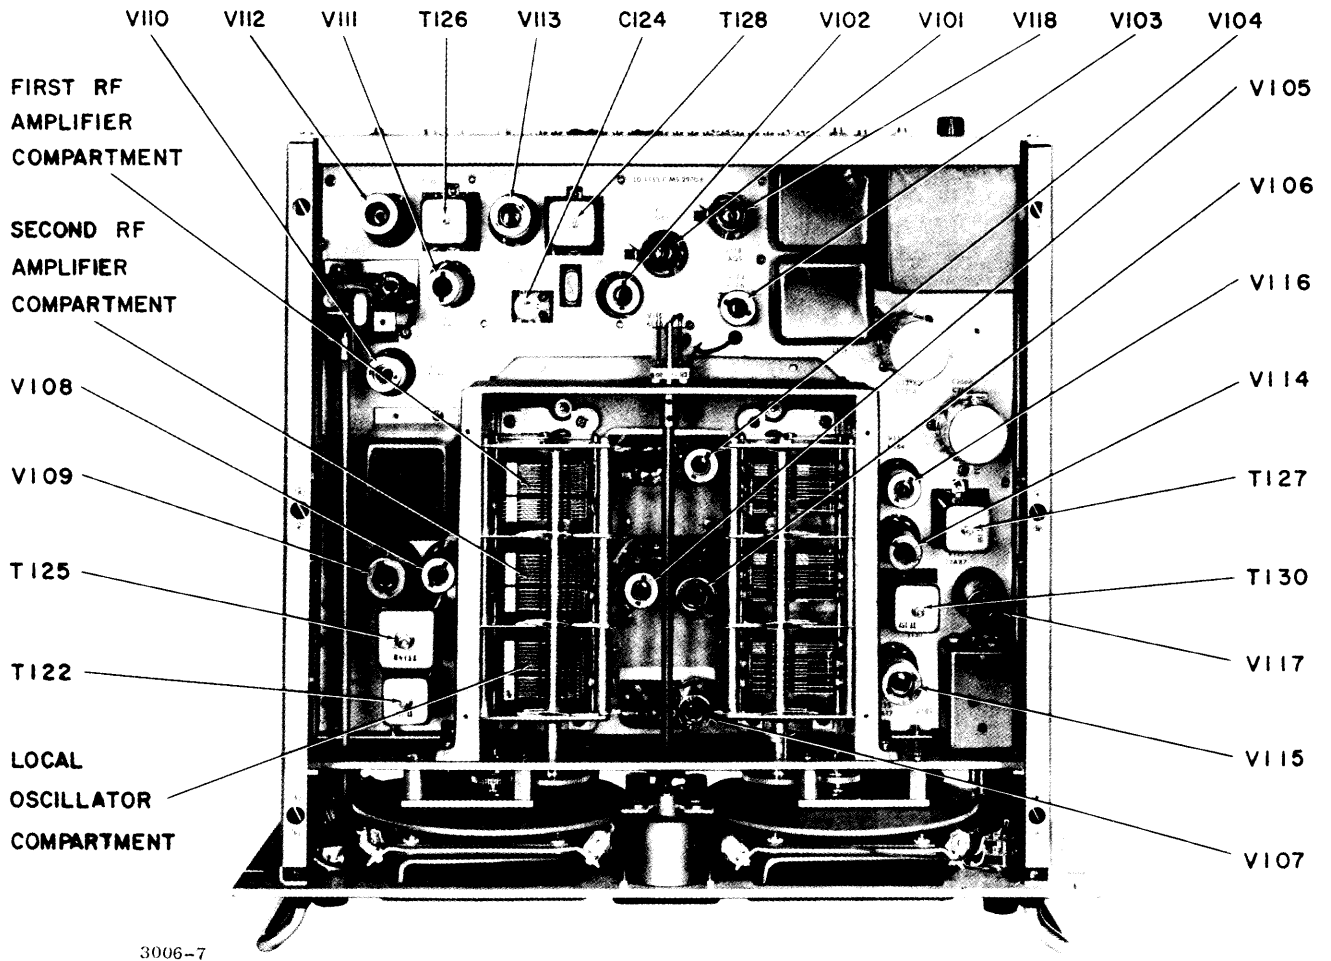

Figure 5-1. GPR-92, Top View With Cover Removed
b. REPAIR. - In most cases, the repair of the GPR-92 will consist of the replacement of an electron tube or a simple electrical component; in these cases, no special instruction is required. (See figures 5-1 and 5-2.) However, the following hints are provided to ensure that the repairs are completed properly.
(1) Always replace a defective component with its exact duplicate.
(2) Always place a new component in the same position occupied by the one it replaces. In general, never change the existing chassis layout, whether it is wiring or component placement.
(3) Never use a soldering iron with a rating of more than 100 watts. Use a pair of long nose pliers as a heat sink to protect components while soldering.
(4) Be extremely careful when replacing components on printed circuit boards. Excessive heat applied to a board will cause the printed wiring to lift off.
(5) Always double check any solder joints made. Cold or loose solder connections can cause trouble at a later time.
(6) Be sure to replace all shielding plates when reassembling the GPR-92. Occasionally, replacement procedures and some of the electrical-part replacements are not obvious. These are provided on the following pages.